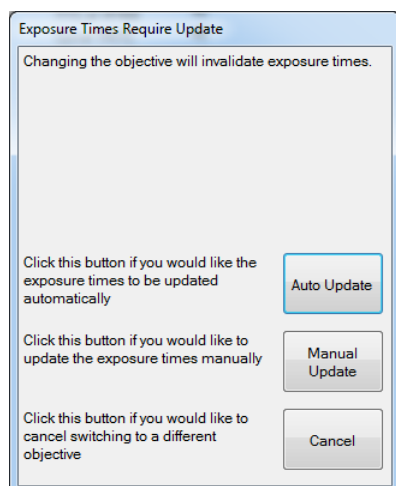

Figure 33. Warning window appears if you change the pixel resolution.
7. If the Multispectral Regions resolution is changed, the same **Exposure Times Require Update** box shown in Figure 33 will appear and you will be required to choose how to adjust the exposure times.